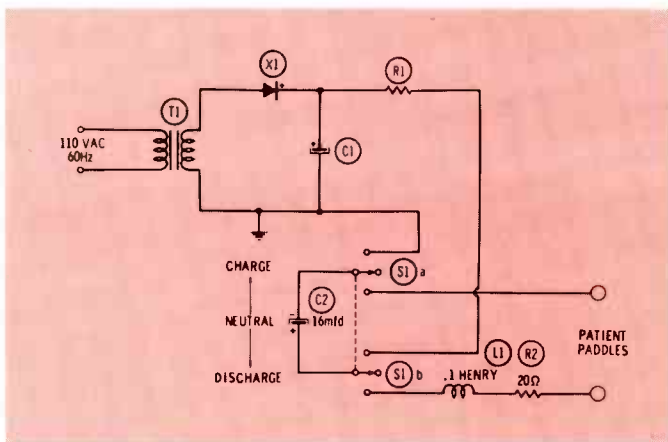
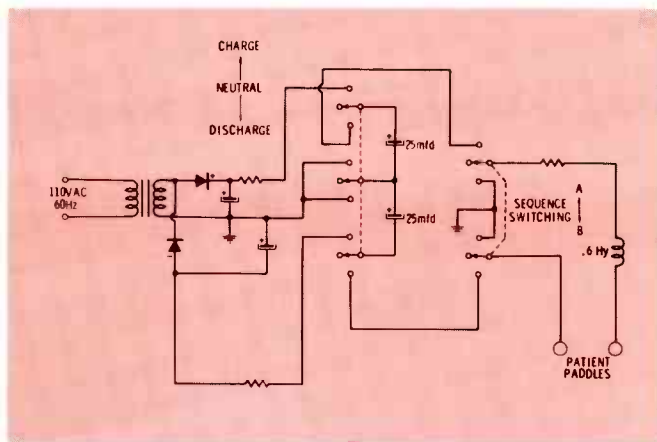
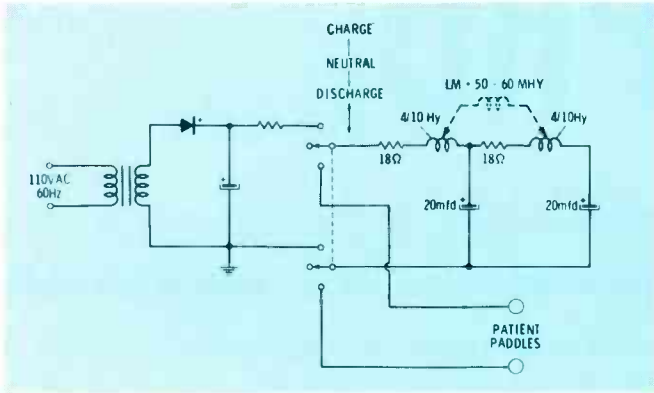

Fig. 3 A simple capacitor-discharge defibrillator circuit.
Fig. 4 A more-recent defibrillator charges two capacitors for an alternate-polarity discharge.
Fig. 5 An extra RCL circuit produces a second voltage tip in this defibrillator.
Figure 3 is the schematic of a simple de-fibrillator. A diode rectifies the 60 Hz AC voltage from the transformer, C1 filters the DC voltage, R1 limits the charging rate
In a slightly more sophisticated de-fibrillator (Fig. 4), two capacitors are charged by separate rectifiers and a second switch for selecting the polarity of voltage and the instant of discharge is provided. Another variation, shown in Fig. 5, adds another RCL circuit to change the waveshape of the pulse. Waveforms of the three types of de-fibrillators are shown in Fig. 6.
Fig. 6 Waveforms produced by various defibrillators. (A) Waveform from the simple circuit of Fig. 3 is a simple pulse. (B) Waveform from the circuit of Fig. 4 shows first a positive then a negative
pulse discharge. (C) Circuit of Fig. 5 has a broadened pulse because of the coupling between the inductances of the RCL circuits.